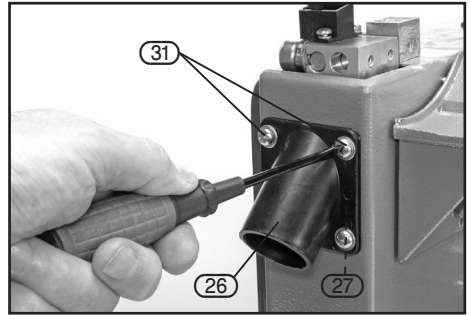

FIG. 5
8.5 DUST EXTRACTION OUTLETS – FIGS. 5 & 6